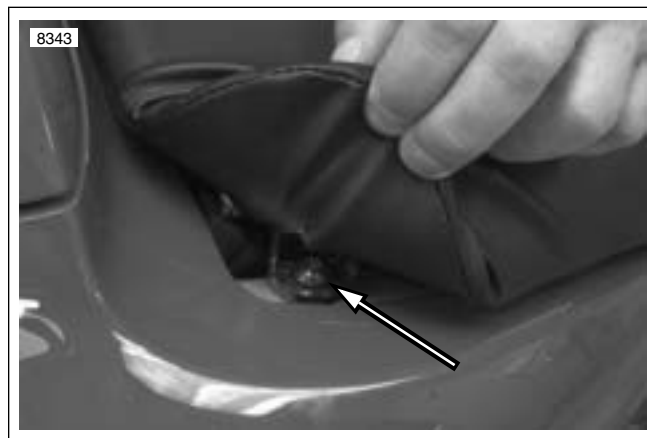

Figure 2-125. Accessing Rider Seat Screws
1. See Figure 2-125. Peel up rear corners of seat and remove two fasteners.